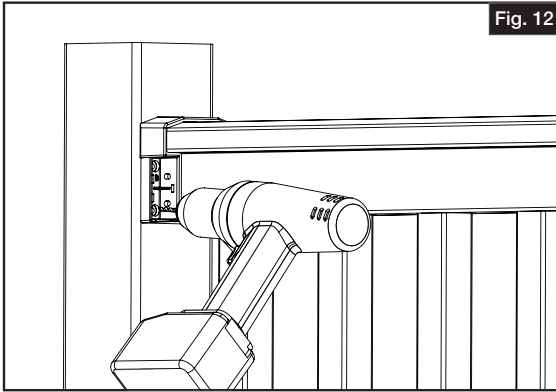

Fig. 12
- ii. Repeat pre-drilling process for remaining three screws (Fig. 12).